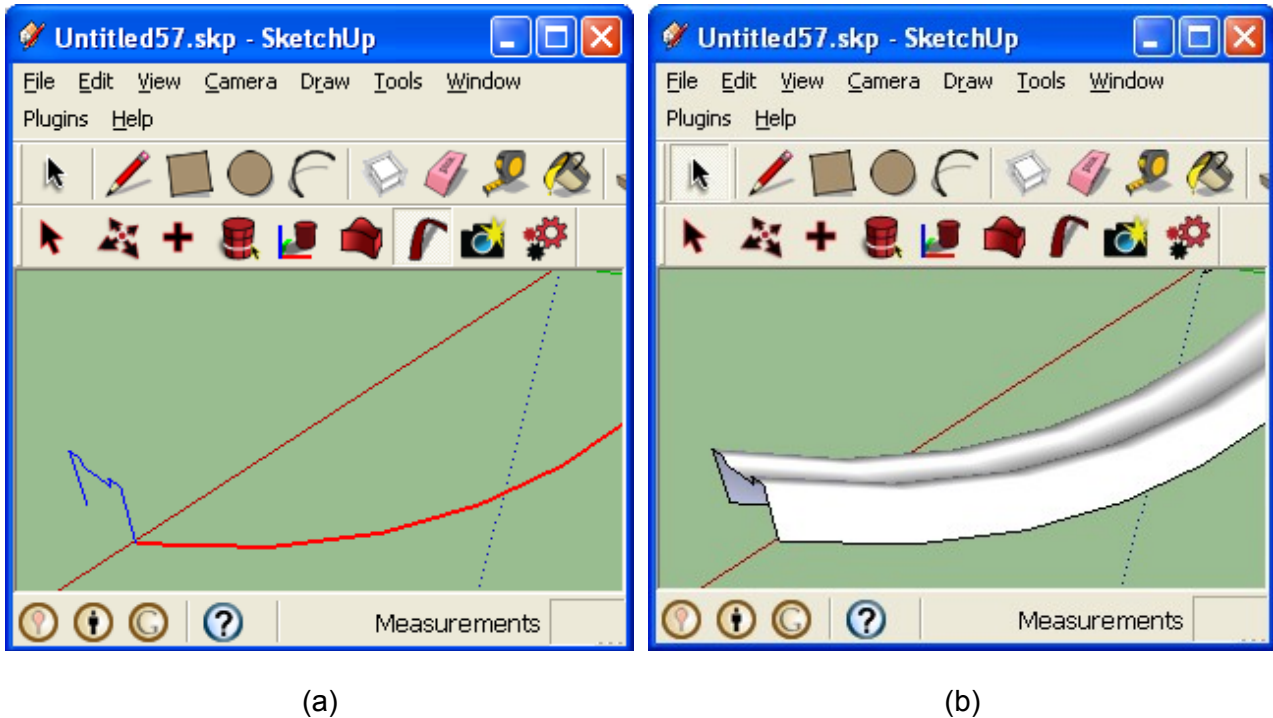

Figure 20: Operation of channel extrusion tool
2. Click the “Channel Extrude” icon on the toolbar (see Section 2.2. and 20.) The selected path will turn red when the tool is activated as shown in Figure 20-a.
4. The result of extruding the selected profile shown in Figure 20-a along the preselected path in red color is shown in Figure 20-b.